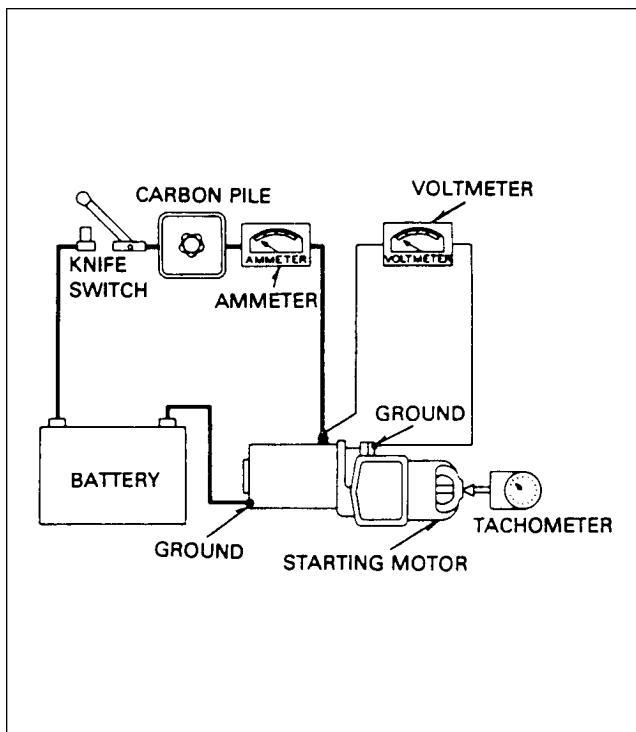

Figure 80-5. No-Load Test Hook-up
1. After starting motor is reassembled, test it to see that no-load current at a certain voltage is within specifications given in Starting Motor Service Test Specifications. To make this test, connect as shown in figure 80-5. If current is too high, check bearing alignment and end play to make sure there is no binding or interference. Two or three sharp raps on frame with a rawhide hammer will often help to align bearings and free armature.